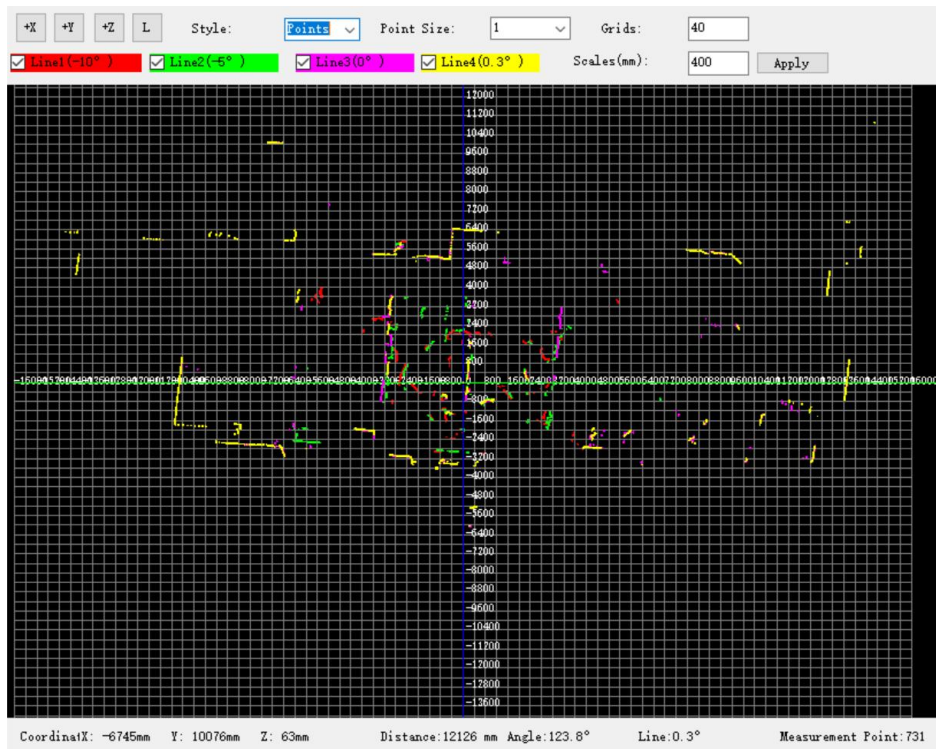
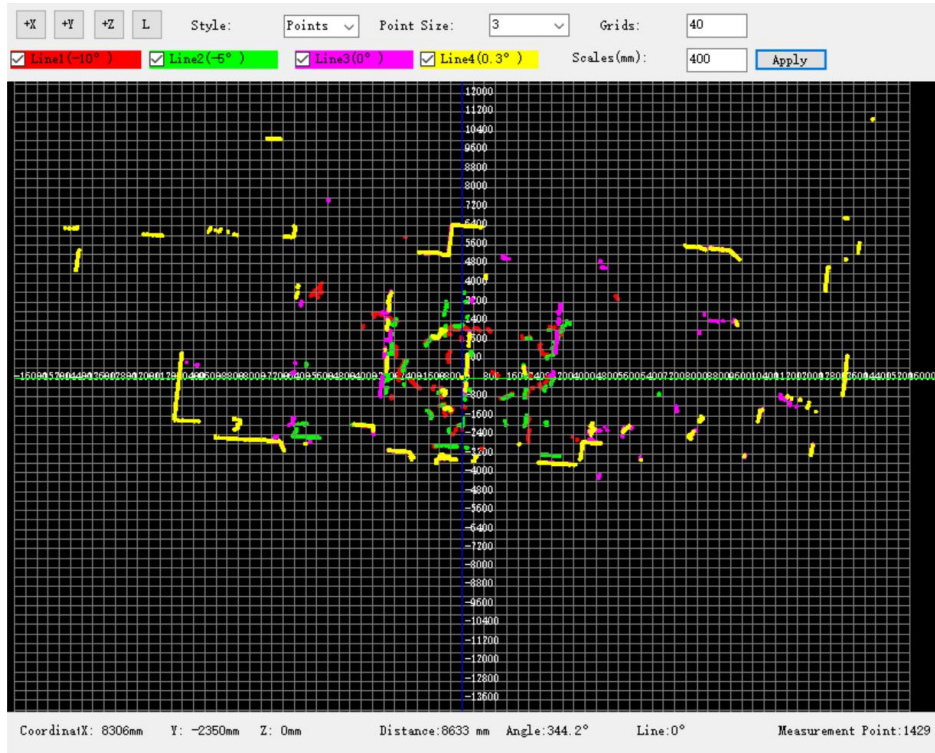

Figure 4.17 PointSize is 1
Figure 4.18 PointSize is 3
3) PointSize setting . This function sets the size of the point. Figure 4.17 shows an example with a point size of 1. Figure 4.18 shows an example with a point size of 3.